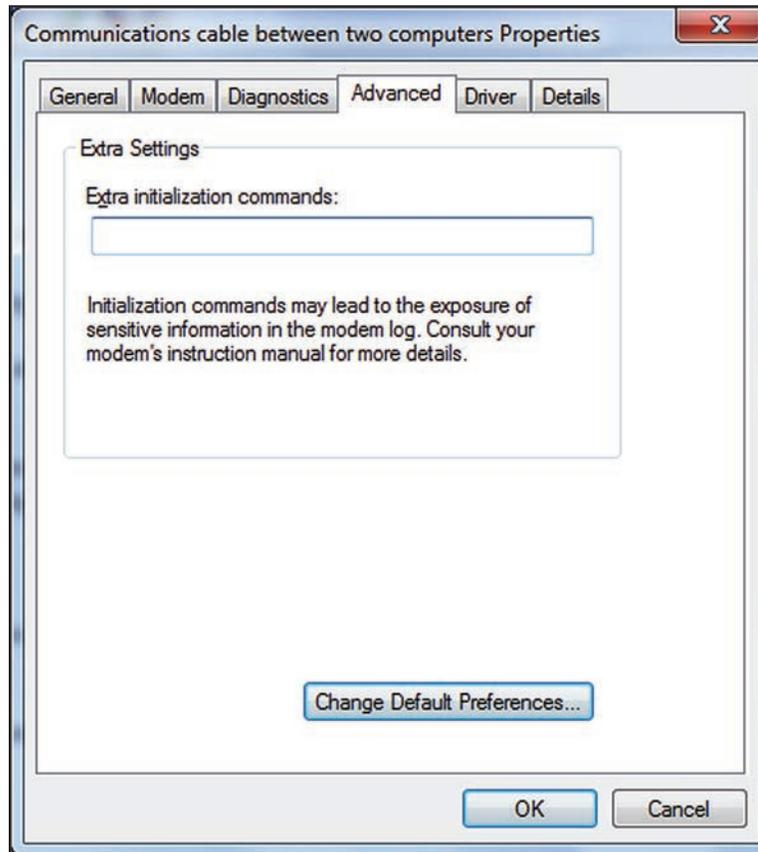
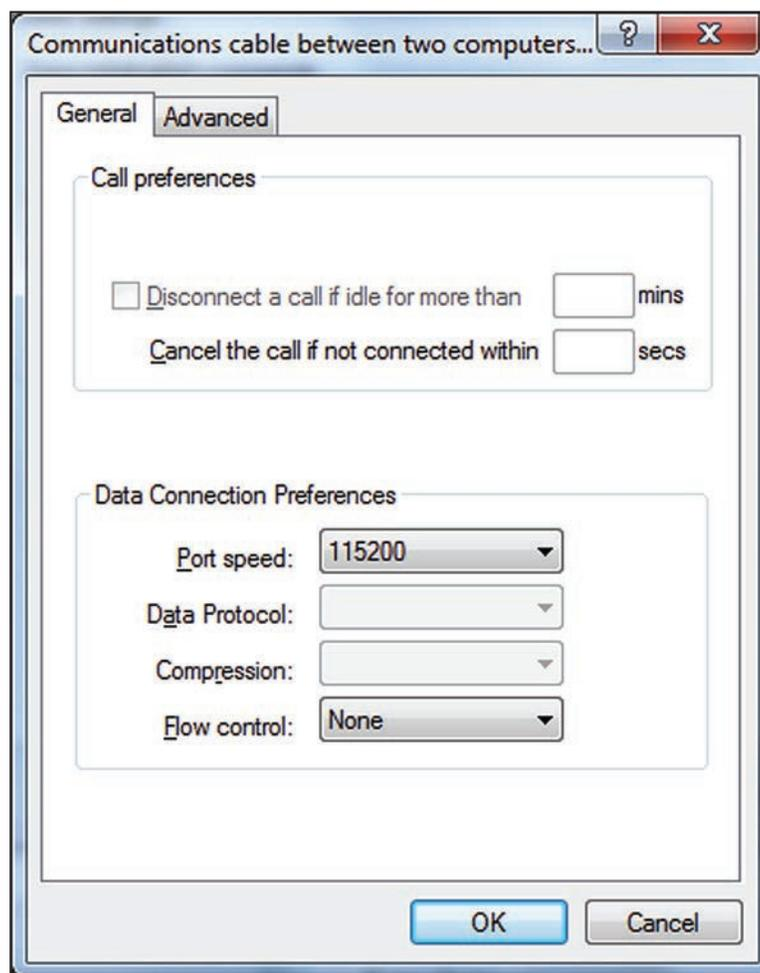

Figure 17. The communications cable between two computers Properties dialog box.
Figure 18. The communications cable between two computers dialog box showing how to adjust data-connection preferences.
STEP 3. Click the **Change Default Preferences...** button. See Figure 17 on page 14. The **General** tab opens. See Figure 18.
- STEP 4.** Set the **Port speed** field to “115200” and the **Flow control** field to “None,” as shown in Figure 18.